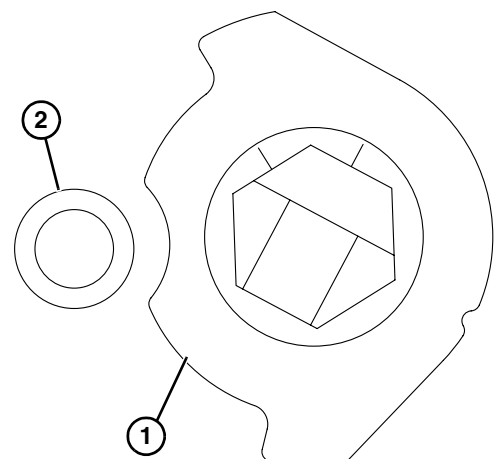

Figure 18
3. Hex shaft assembly will need to be rotated (Figure 18) for stop keys (Figure 18, item 1) to pass by the frame stops (Figure 18, item 2).